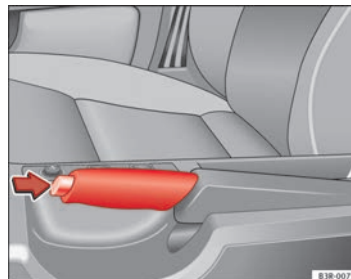

Fig. 152 Detailed view of the centre console: Handbrake on
- Pull the lever up slightly and *at the same time* press in the release button ⇒ Fig. 152 (arrow).